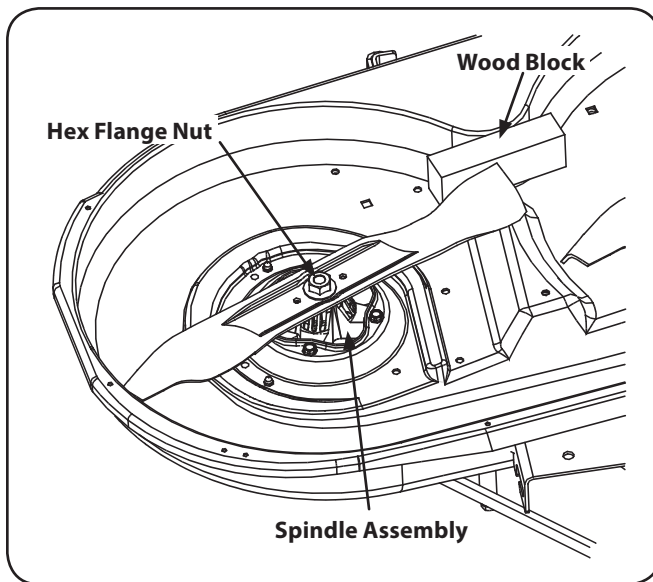

Figure 7-11
2. Use a $1\frac{5}{16}$ " wrench to hold the hex nut on top of the spindle assembly when loosening the hex nut securing the blade. A block of wood may be placed between the deck housing and the cutting edge of the blade to help in breaking loose the hex nut securing the blade. See Figure 7-11.